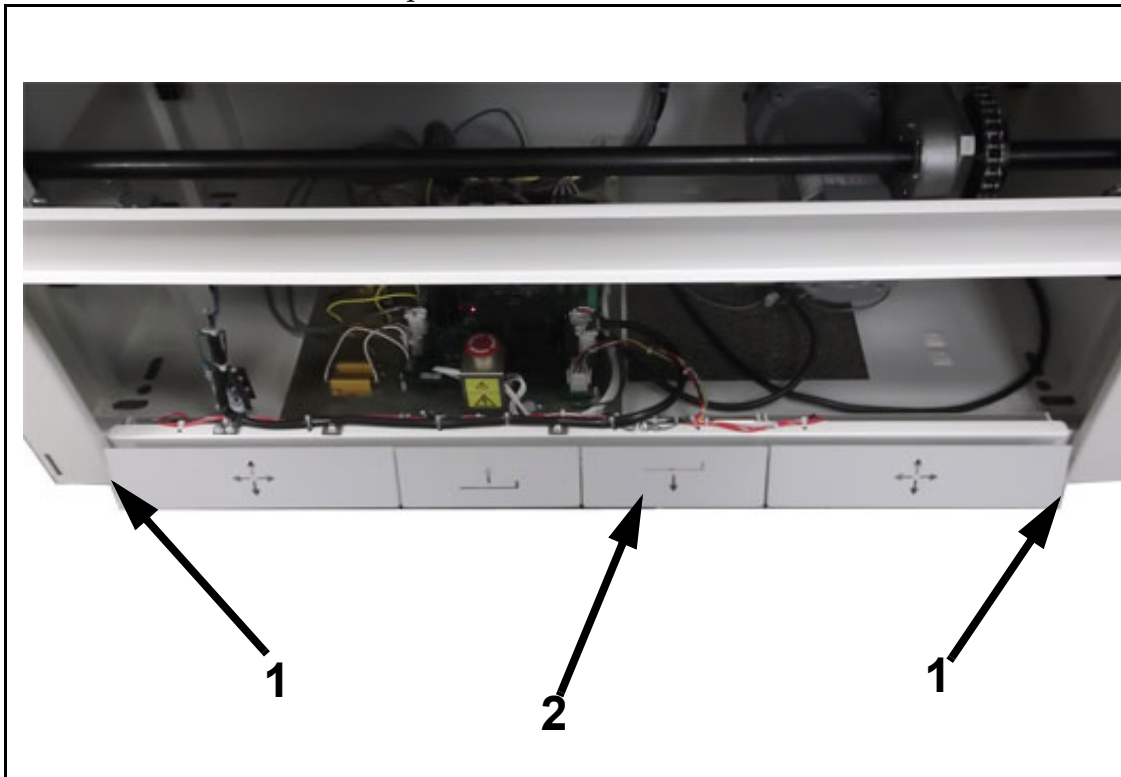

Figure 6-5. Foot Treadle
- 6 Unscrew the two foot treadle mounting screws, located inside the table as shown (1 in Figure 6-5), and remove the treadle assembly (2).